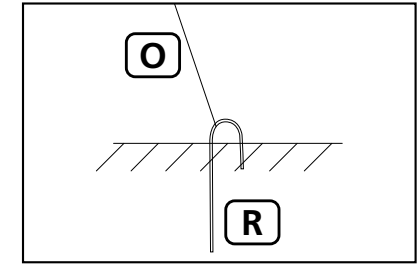

Fig. 13
Tie one end of each Rope (O) to loops found at the corners of the Main Canopy (J). Tie the opposite ends of Ropes (O) to the remaining four Stakes (R). Pull these Stakes (R) with Ropes (O) so that the rope is taut and gently hammer the stakes in the ground, see Fig. 13.